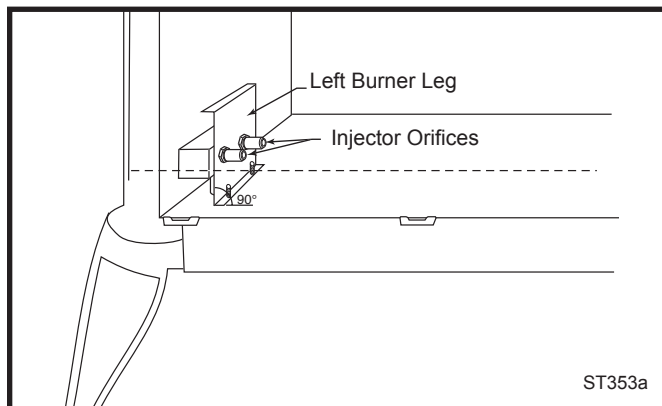

Fig. 12 Be sure injector orifices remain at 90° to the base.
4. Replace burner. Slide the burner in at an angle with left side lower than the right side. Slide the left side onto the injectors, making sure the burner leg remains at a 90° angle to the base. (Fig. 12) Lower the right hand side down in to place. Make sure the burner is as far left as possible and the injector shoulders are inside the burner.